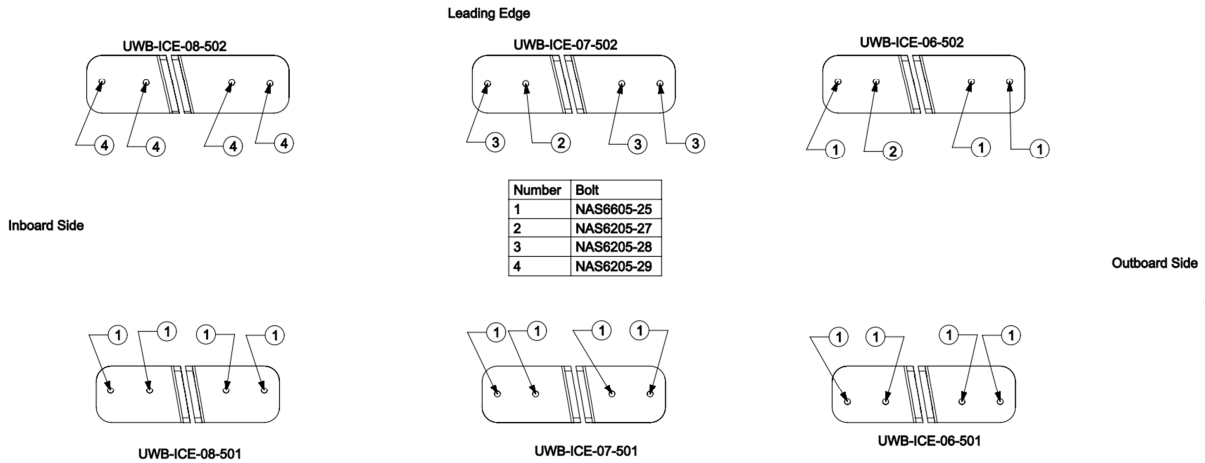

Figure 2-4: Port Wing Upper Pylon Lug Fastener Placement
1. Attach the port wing pylon forward upper lugs (UWB-ICE-06-502, UWB-ICE-07-502, and UWB-ICE-08-502) and port wing pylon upper aft lugs (UWB-ICE-06-501, UWB-ICE-07-501, and UWB-ICE-08-501) using the fasteners and locations shown in Figure 2-4, with the exception of temporarily leaving out the most outboard bolt on each of UWB-ICE-06-502, and the most inboard bolts on UWB-07-501, UWB-07-502 and UWB-ICE-08-501.
- b. Note each lug is stamped P5 or P6 denoting Polar 5 or Polar 6 installation, with its drawing number which can be seen in Figure 2-4, and by O or I indicating if it was the inboard or outboard side of the pair (e.g. P6 08-501 I).